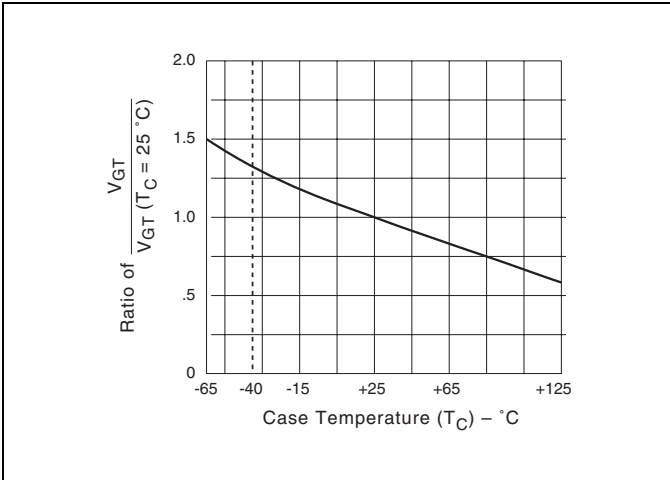

Figure E4.7 Normalized DC Gate Trigger Voltage for all Quadrants versus Case Temperature
- See Figure E4.7 for VGT versus TC.